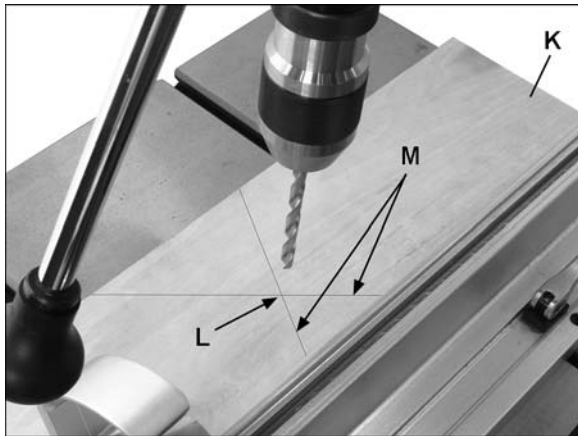

Figure 24
6. Place board (K, Figure 24) flat on table. Do not allow board to move from this position; use
8. Adjust the other laser assembly in the same manner *until the laser lines form cross hairs* exactly over perforation in board, as shown in Figure 24.